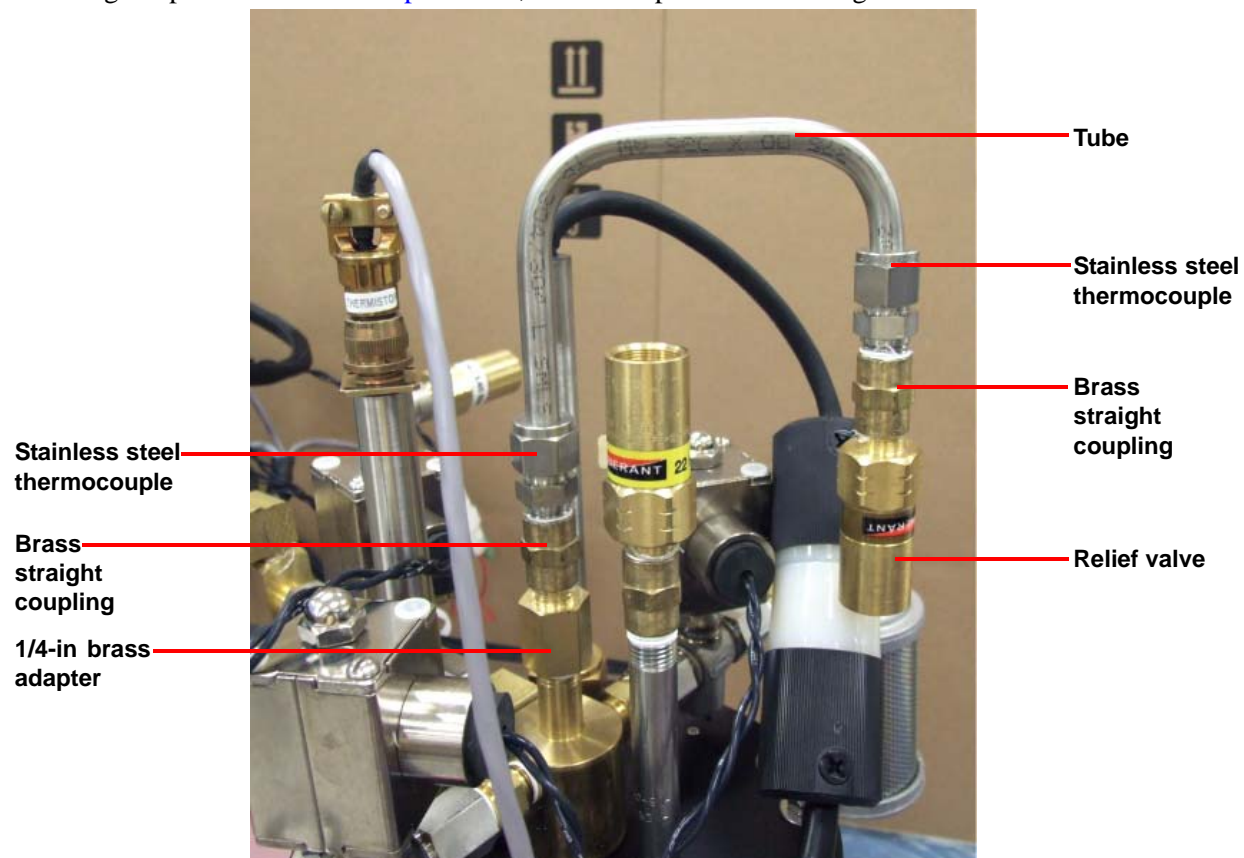

Figure 3 Tube, adapter, couplings, thermocouples, and relief valve installed in proper locations.
- 2 From the LN2 ship kit, remove the LN2 flex line and relief valve assembly. Refer to Figure 3 for part identification, if necessary.